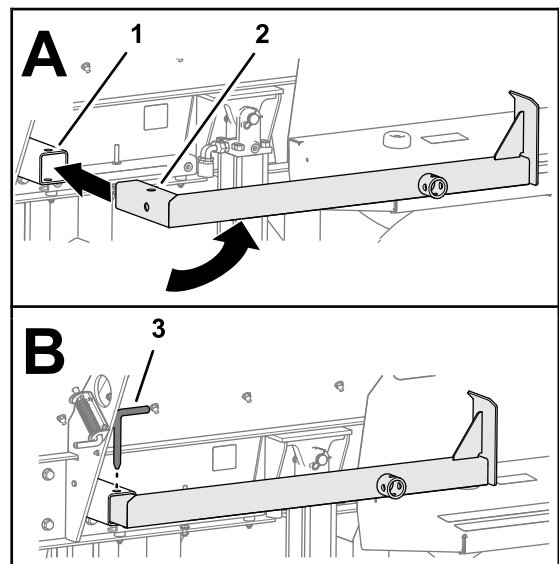

Figure 26
5. Rotate the rear-jack leg horizontal and insert it into the leg tube (Figure 26).
6. Align the holes in the jack leg and tube, and secure the jack leg with the jack-leg pin (Figure 26).